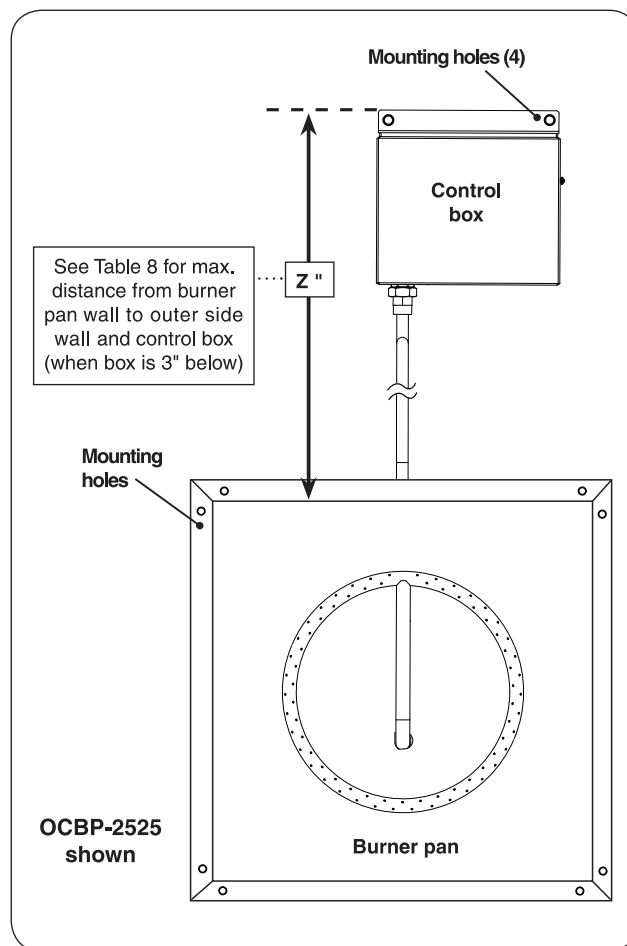

Fig. 12-1 Mounting detail (top view)
- The control box assembly is to be installed in the enclosure side wall using the 4 mounting holes found on the box assembly (see Fig. 12-1).
- The burner pan is to be installed into the non-combustible countertop using the mounting holes found on the hanger (see Fig. 12-1).
Note: The maximum distance from the burner pan wall to the outer side wall and control box is "Z" (when the box is located 3" below the burner pan). See Fig. 12-1 and Table 8, and refer back to the figure on the previous page.